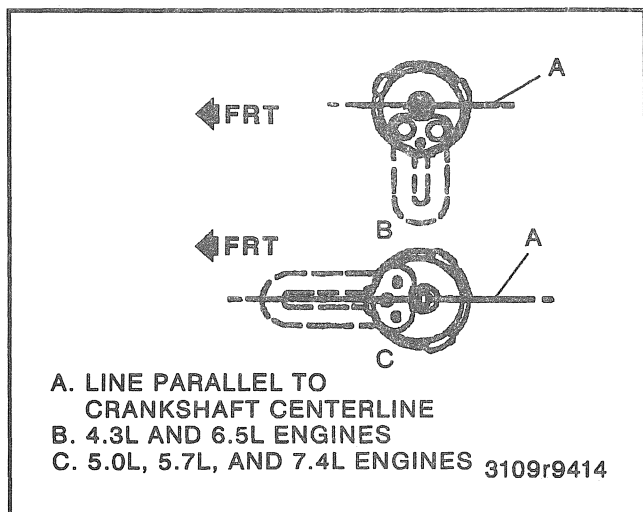

Figure 1—Engine Coolant Heater Element Positioning
Remove or Disconnect (Figures 1 through 5)
Install or Connect (Figures 1 through 5)
- Install the heater element in the correct direction to avoid element contact to the inside walls of the engine block as shown in Figure 1.